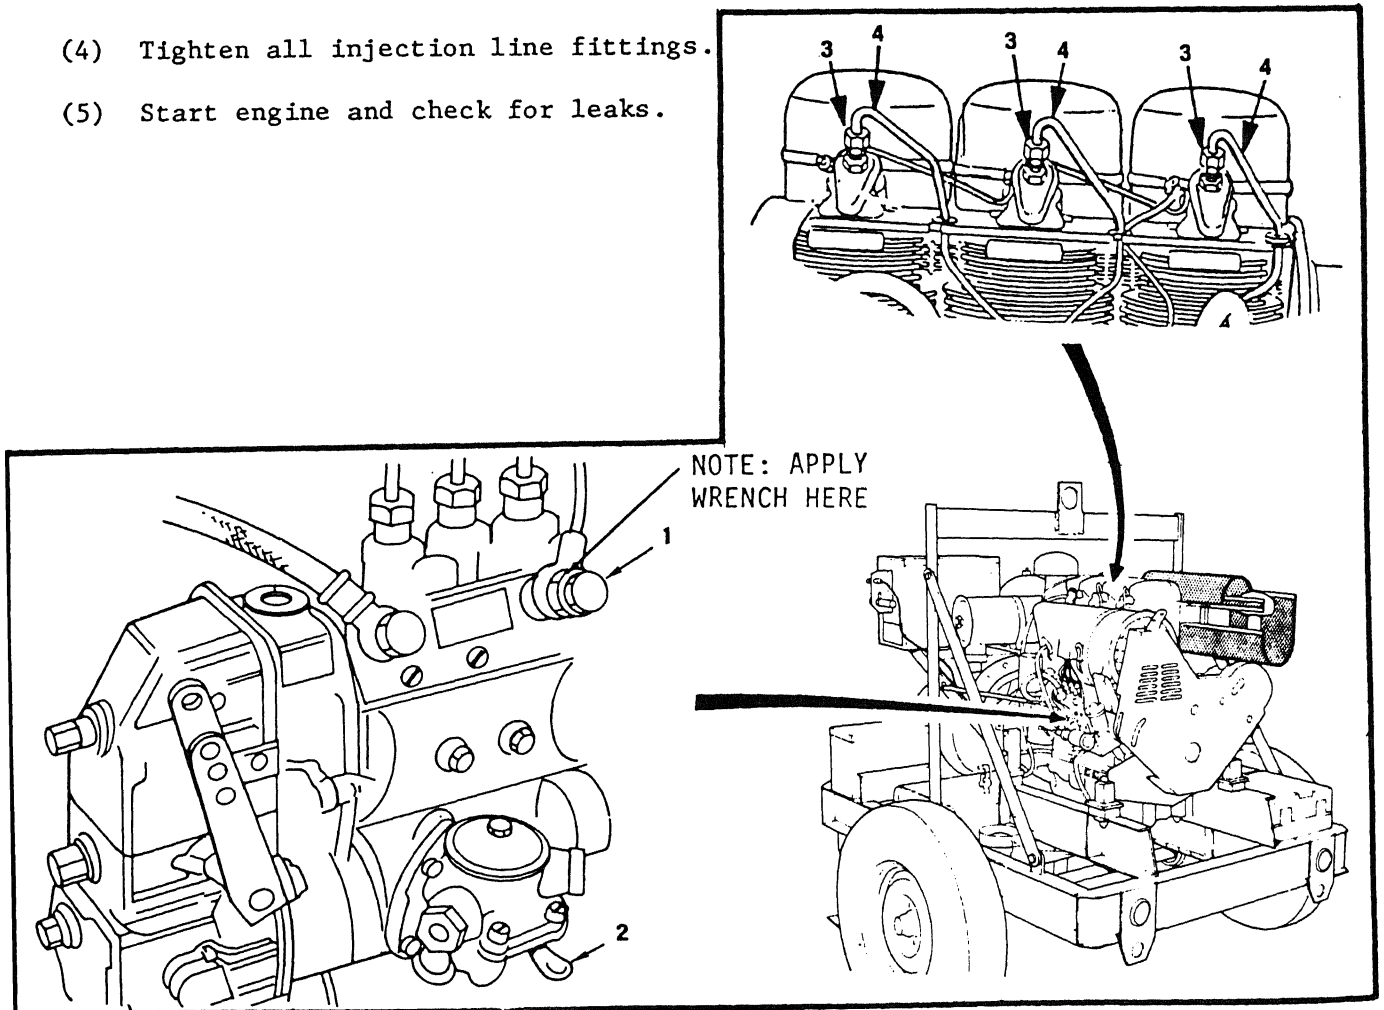

Figure 4-24. Bleeding Fuel System
d. Bleeding Fuel System (figure 4-24).
- (1) Loosen overflow valve (1), by turning the larger hexagon fitting (19mm) two or three turns.
- (2) Operate fuel feed pump lever (2) by pressing down until fuel, free of air bubbles emerges at the loosened overflow valve (1).
- (3) Tighten overflow valve (1).
- (4) Start engine and check for leaks.
e. Bleeding Injection Lines (figure 4-24).
- (1) Loosen fittings (3) approximately two turns at injection nozzle end of injection lines (4).
- (2) Set throttle to wide open position.